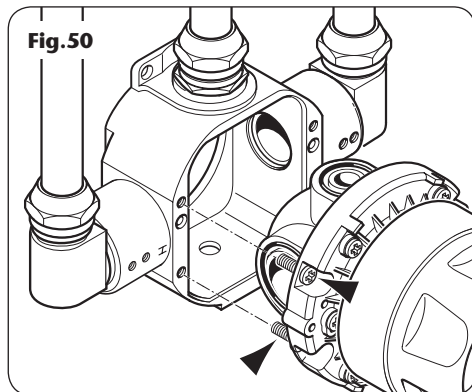

Fig.50
- d. Remove the four screws holding the valve cartridge, and carefully remove the cartridge assembly from housing (**fig.50**).